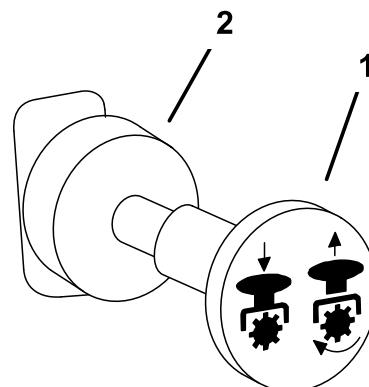

Figure 15
4. Pull out on the power take off (PTO) switch to engage it (Figure 15).
To disengage, push the PTO switch to the off position (Figure 15).